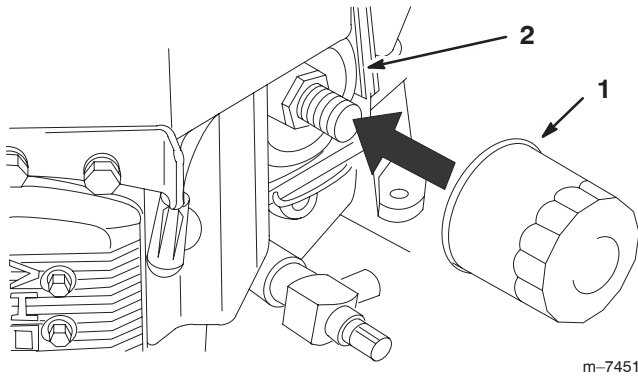

Figure 31
2. Remove the old filter (Fig. 31).
1. Spark-plug (2)
3. Apply a thin coat of new oil to the rubber gasket on the replacement filter (Fig. 31).
4. Install the replacement oil filter to the filter adapter, turn the oil filter clockwise until the rubber gasket contacts the filter adapter, then tighten the filter an additional 3/4 turn (Fig. 31).